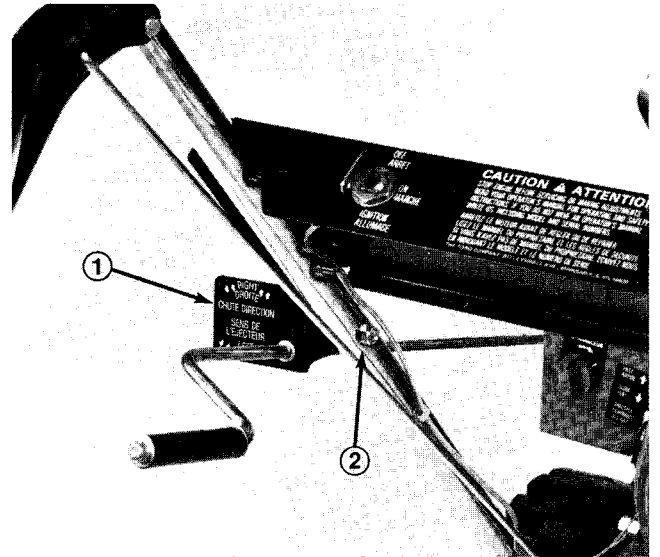
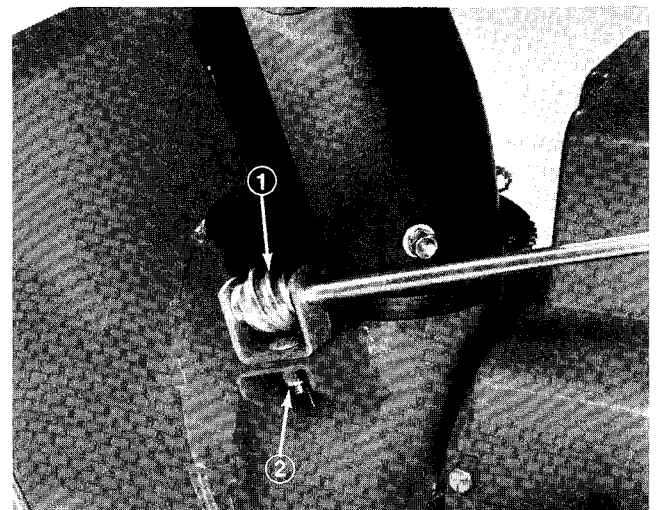

Figure 12
Figure 13
1. Assemble chute control bracket and rod to left side of handle with capscrew and locknut. Leave locknut loose until assembly is completely mounted (Fig. 12).
2. Apply No. 2 general purpose grease to worm gear. Mount worm gear and bracket to mounting flange (Fig. 13) and secure with pyramidal washer and locknut (Fig. 13).
3. Push worm firmly against teeth in chute retaining ring and tighten locknut (Fig. 13). Then, tighten locknut to secure chute control bracket against left handle (Fig. 12).